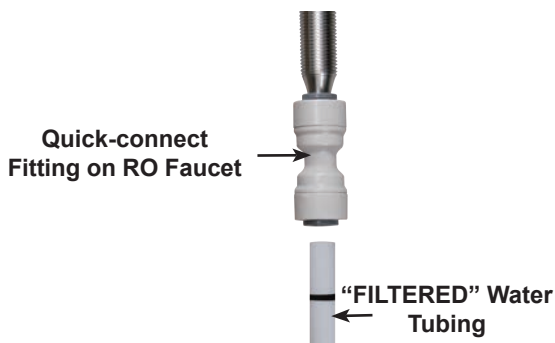

Figure 13
- Insert one end of the PE tubing into the quick-connect fitting on the RO faucet (Figure 13), and pop in the lock clip on the fitting;